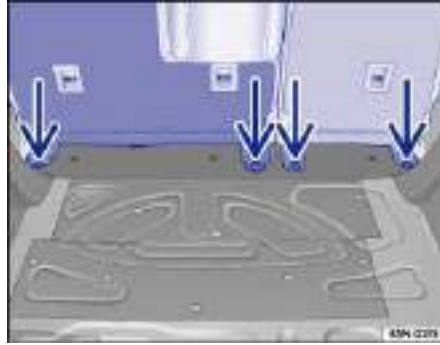

Fig. 99 Rear attachment of the rear seat.
12. Remove all hexagonal nuts ⇒ fig. 99 (arrows) in the luggage compartment using the lug wrench.